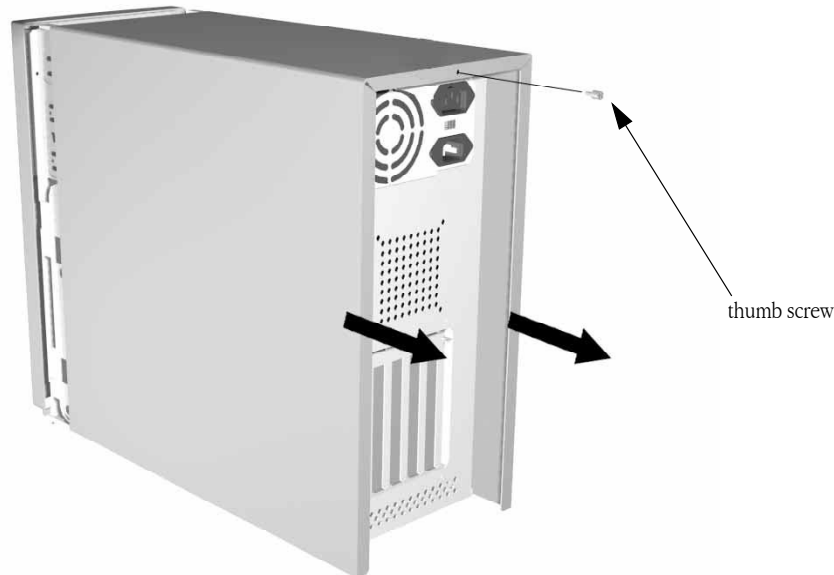

Figure 1: Removing the chassis cover
2. Remove the large thumb screw from the rear of the computer (see **Figure 1: Removing the** on page 6).